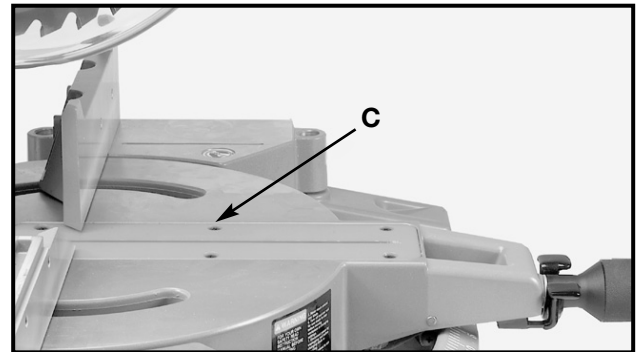

Fig. 7
2. Fig. 7 illustrates the table (C) in the 0° straight cut-off position.